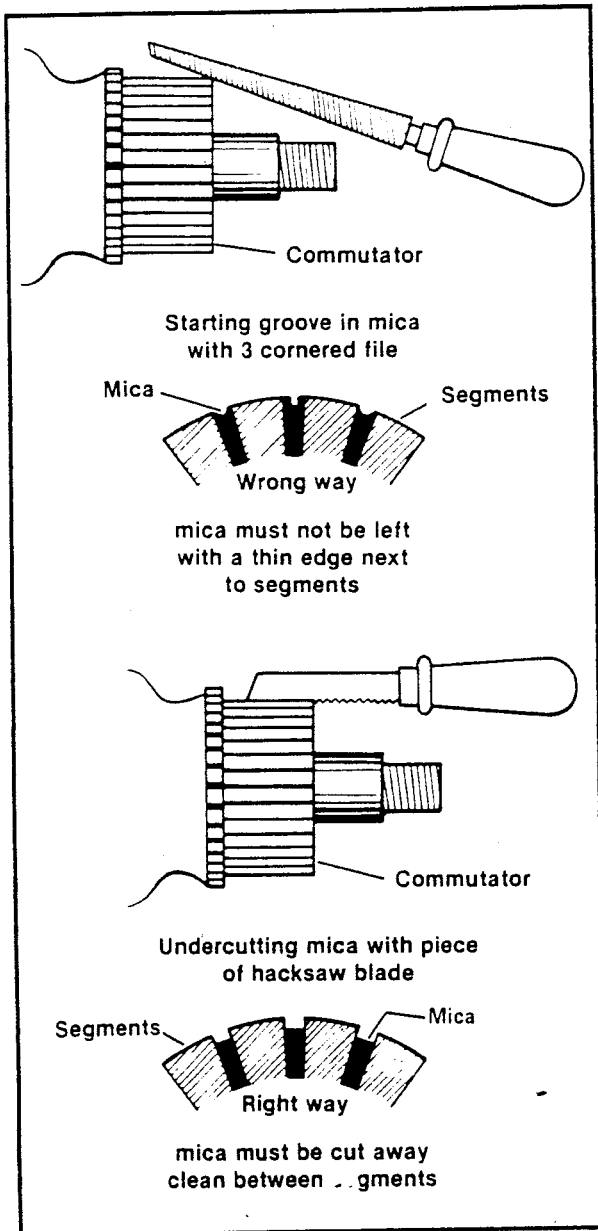

Figure 4-33. Undercutting the Mica Separators
2. See Figure 4-33. If an undercutting machine is not available, undercutting can be done satisfactorily using a thin hacksaw blade. After undercutting, lightly sand the armature with crocus cloth to remove any burrs.